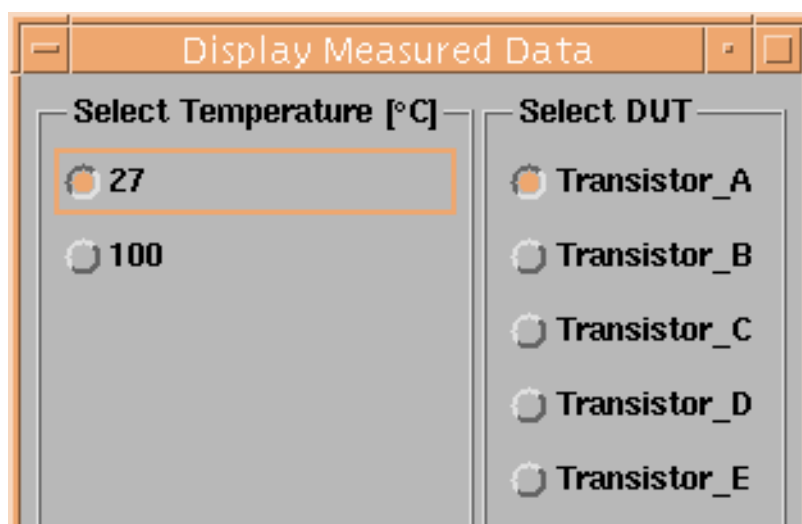

Figure 1-24. Selecting measured data to be displayed
- For a glance at the diagrams that are just been measured, use the **Display Plots** button. You will see a form (Figure 1-24) to select which measured data set you would like to display. After choosing the plots, use the **Display Plots** button on that form to open up the plots desired. This is a convenient way to detect measurement errors before starting the extraction routines.